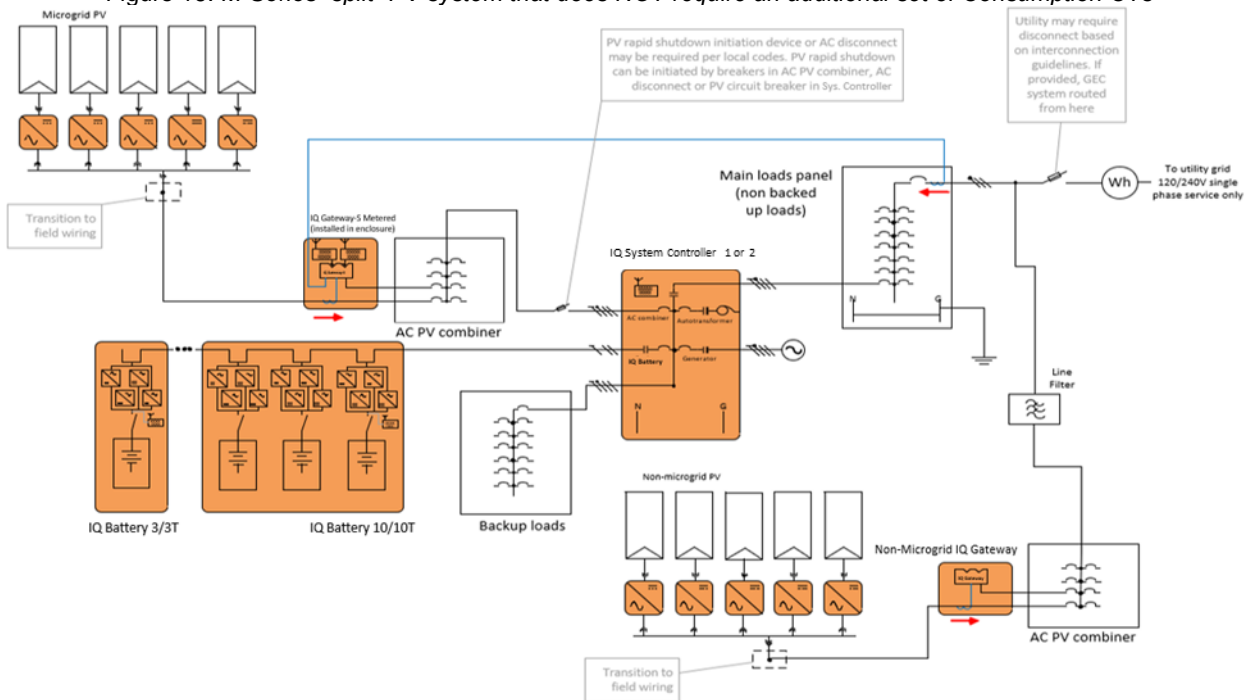

Figure 15: “Split” PV system that does NOT require an additional set of Consumption CTs
- For systems with IQ6, IQ7 and M-Series Microinverters, Enphase recommends installing the power line filter with the microgrid IQ Gateway and all microgrid PV Microinverters on the “Load” input of the filter and the IQ System Controller 1 or IQ System Controller 2 source on the “Line” input of the filter. (See figures Figure 13, Figure 15, Figure 16.)
For Enphase Energy systems with IQ6, IQ7 Microinverters in the microgrid, where the non-microgrid PV system is interconnected on the utility side of the primary microgrid Gateway’s Consumption CTs, NO additional Consumption CTs are needed. See Figure 15 for this configuration.